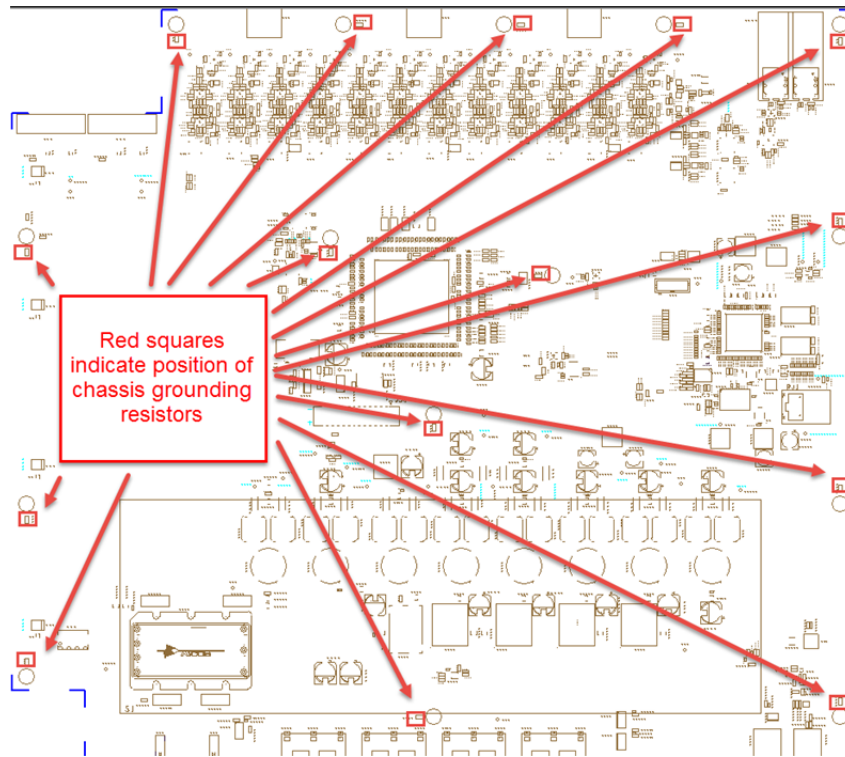

Figure 1 - positions of chassis grounding resistors adjacent to standoffs
- ___ DONE c. Verify that ***none*** of the resistors associated with any chassis mount standoff position are installed. See Figure 1.